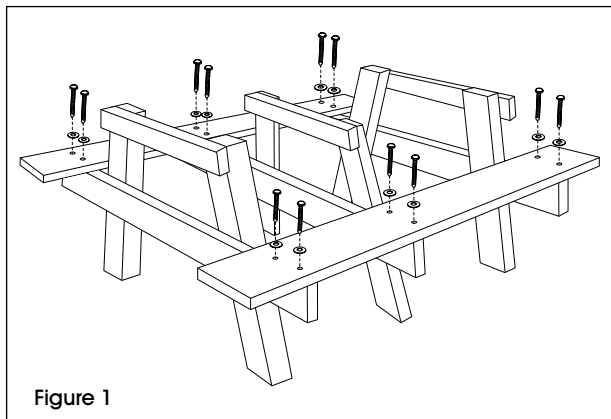

Figure 1
4. Loosely attach seat boards to A-Frame base with 3/2" lag screws and washers using the power drill and 7/16" socket bit (will tighten later in step 6). (See Figure 1)